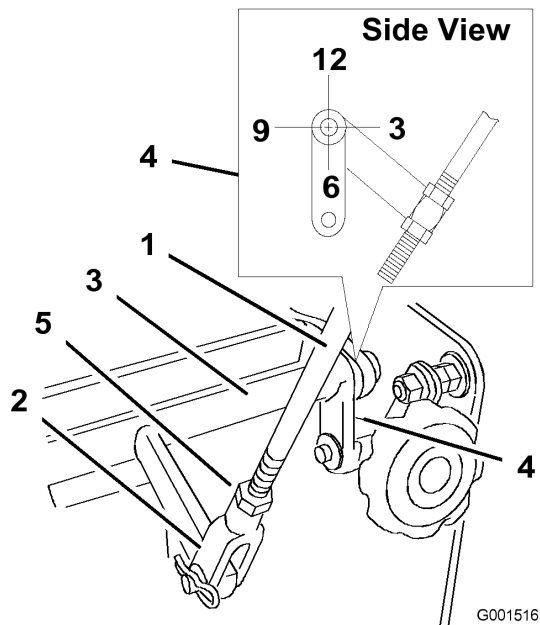

Figure 34
4. Check the orientation of the tabs on the ends of the speed control crank. These tabs should be pointing straight down at the 6 o'clock position approximately (Figure 34).
5. Adjust the threaded yoke at the bottom of the speed control linkage until the tabs are at the 6 o'clock position (Figure 34).